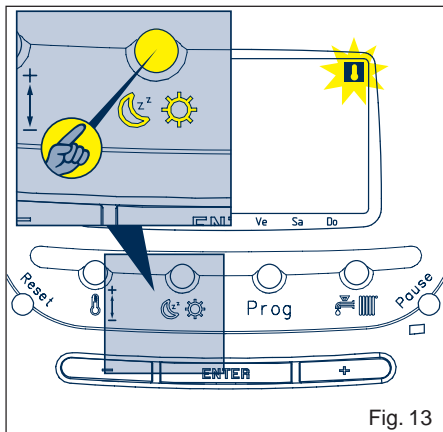

Fig. 13
- the  indicator blinks for 2 seconds to confirm the new configuration **TIMER THERMOSTAT OFF** (fig. 13).
- the  indicator blinks for 2" to confirm the new **ROOM THERMOSTAT OFF** configuration (fig. 13).